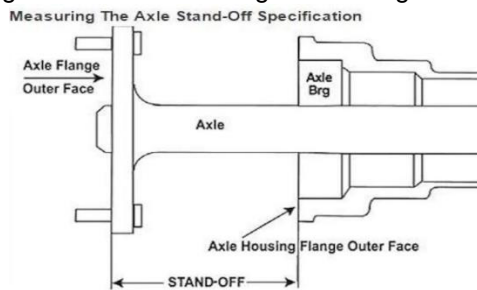

Figure 2: Axle standoff measurement
10. Measure the axle standoff for your vehicle, by taking the distance from the inboard face of the base bracket to the mounting face of the axle flange. Refer Figure 2.